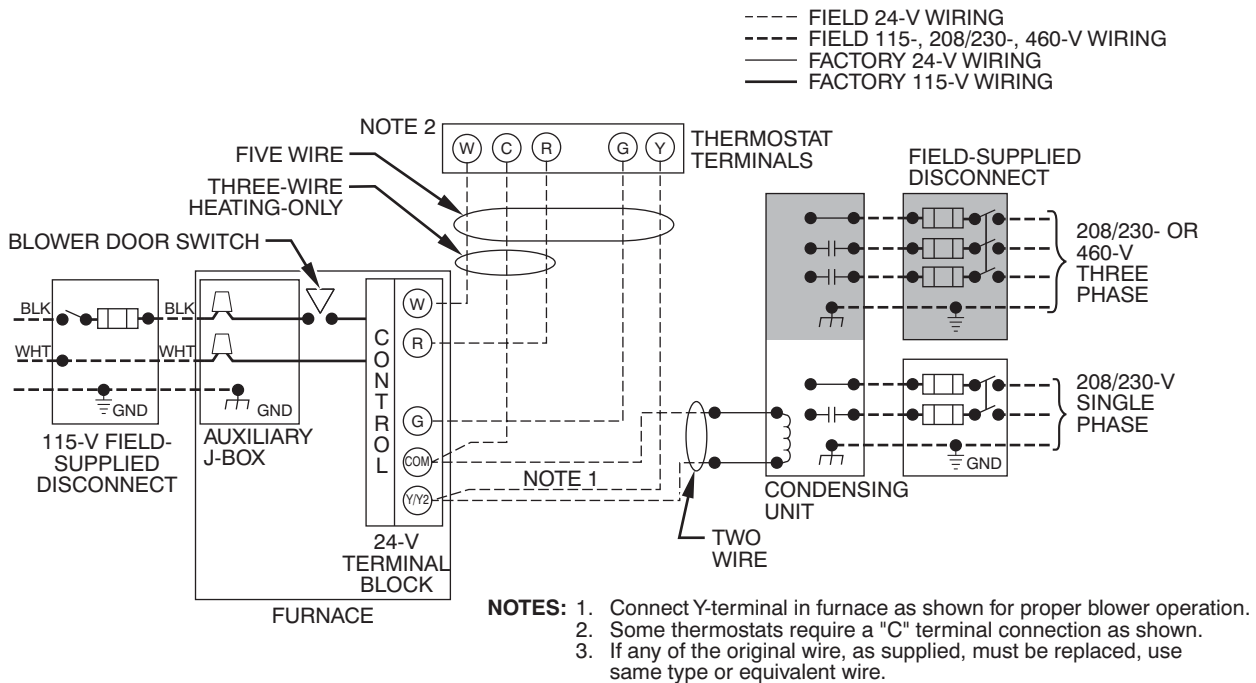

Fig. 36 - Typical Single-Stage Wiring Diagram
6. Connect power cord power and neutral leads to furnace power leads as shown in Fig. 36.
5. Connect field power and neutral leads to furnace power leads as shown in Fig. 36.
Make field 24-v connections at the 24-v terminal strip. See Fig. 37. Connect terminal Y/Y2 as shown in Fig. 36 for proper cooling operation. Use only AWG No. 18, color-coded, copper thermostat wire.